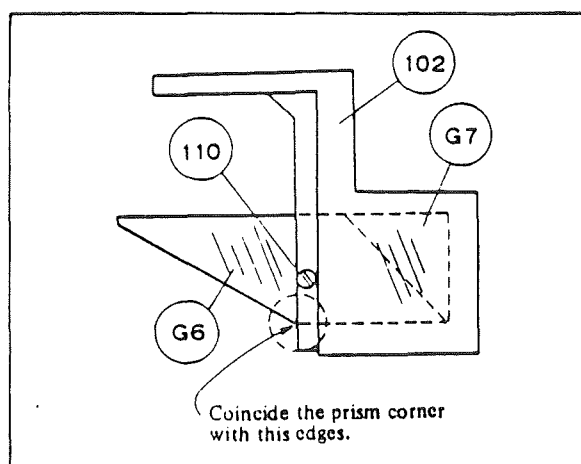

Fig. 20
- 13) Stick light stop plate (116) onto the light incidence surface of prism (G6) in the same way as mentioned in 12).
- 14) Attach prisms (G6), (G7) to (102), and fix them with plastic screw (110) transitorily. (After positional adjustment, stick them using No. 2001.) (Fig. 20)
- 2) For the attaching positions of (G6) and (G7) and righthand prism box (52), refer to Fig. 20.